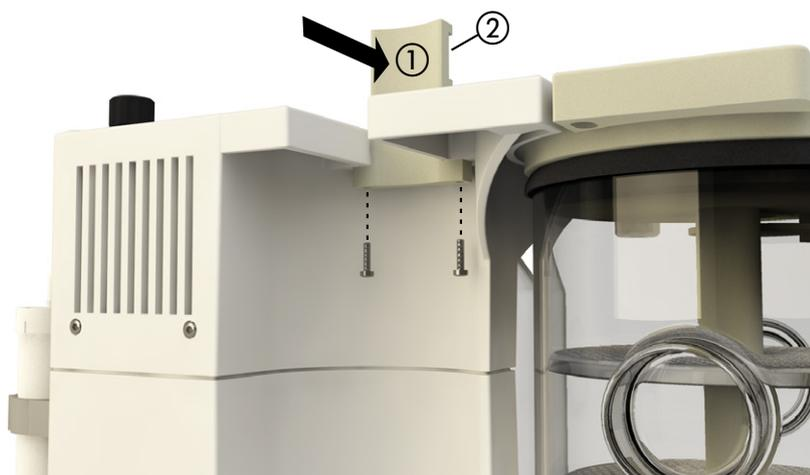

Fig. 5.5: Fixing the carrier plate
- Unless the carrier-plate ① for the condenser is not yet installed, slide it into the housing from the side and fix it with the two screws from below. The groove ② must point away from the opening in the housing (see figure 5.5).